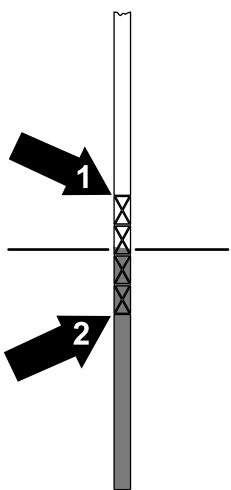

Figure 55
5. Remove the dipstick cap and check the fluid level (Figure 55).
6. If the fluid level is below the appropriate lower mark on the dipstick, add the specified hydraulic fluid into the tank. Insert the dipstick cap into the tank and repeat steps **3** through **5** until the fluid level appears between the upper and lower marks (Figure 55) on the dipstick.